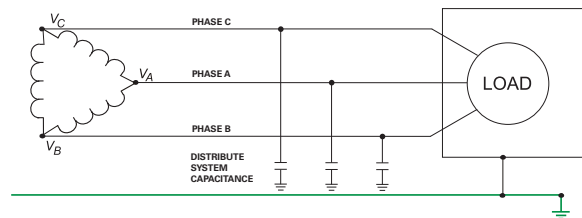

FIGURE 4
- An ungrounded system has no point in the system that is intentionally grounded (other than the normal bonding which is always present to connect the non-current-carrying metal parts to ground). Grounding occurs only through system capacitance to ground (as shown in Figure 4).